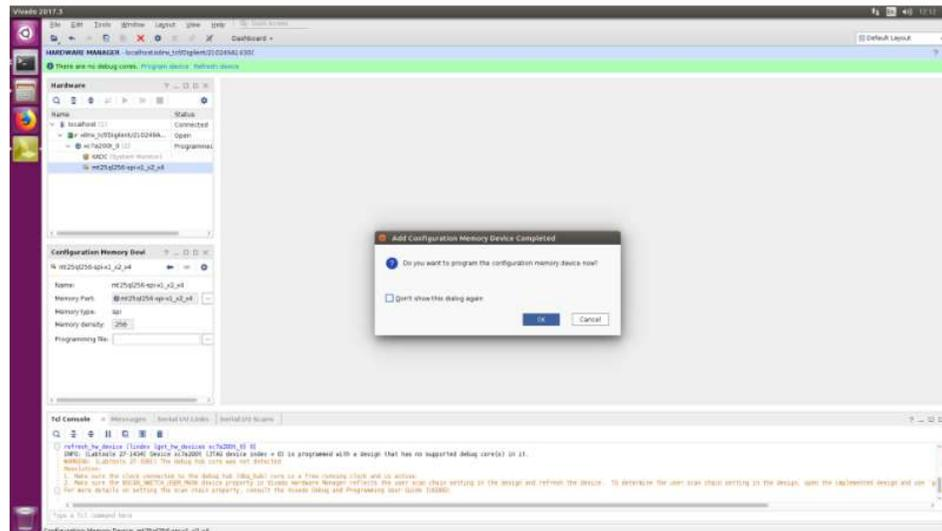

Figure 53: Add configuration memory device completed [sc18]
9. The pop-up “Add Configuration Memory Device completed” appears. Click “OK” to program the memory configuration device (Figure 53, STMA-69248):